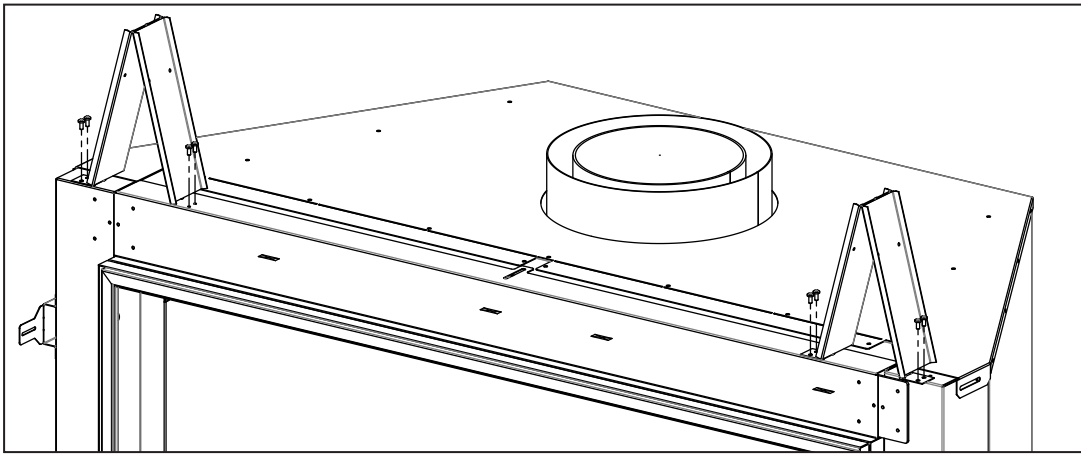

Figure 27: Top Standoff Install
2. Install top standoffs into position using supplied T-20 screws (see Figure 27).